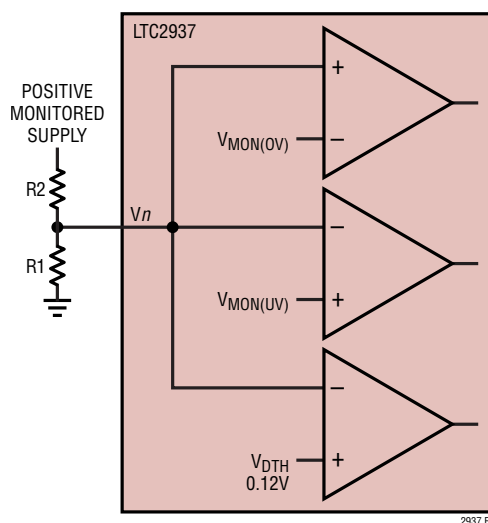

Figure 11. Configuring Custom Positive Thresholds (Operating in the Positive Adjustable Range)
For positive voltage sensing applications, use Figure 11 as a configuration reference. For example, assume a positive input voltage of +15V applied to the top of R2, with a desired UV threshold at 14.3V ($V_{TH(UV)}$). Use the `V_RANGE` command to select the Positive Adjustable Range. When the input voltage is 14.3V we choose the V_n input to be $V_{MON(UV)} = 1.0V$ (somewhat arbitrarily, for numerical simplicity). $V_{MON(UV)} = 1.0V$ is a code of `uv_threshold_n = 0xCD (205)`. The resistor ratio, $R2/R1$ is easily determined by the equation:
After selecting external resistors, configure the OV thresholds. Following the positive adjustable example of Figure 11, the monitor comparator OV threshold is determined from:
Applying values from the example using Figure 11, the discharge threshold is: